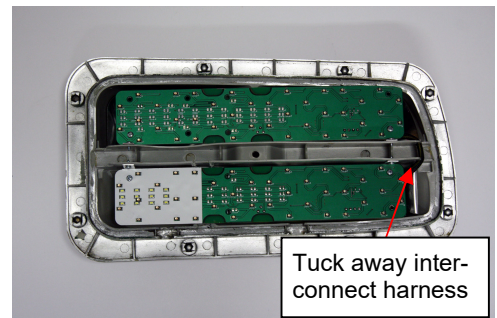

Figure 6
- 5.1. For each housing, install the appropriate LED panel into the back housing lighting cell by passing the bulb base through the suitable bulb socket hole. If the grommet was installed, pass the Pink wire through this grommet. Realign the LED panel within the housing cavity as done when marking holes and attach the panels to the center bulkhead with 2 - #4 x 1/4" screws supplied. (See Figure 6)